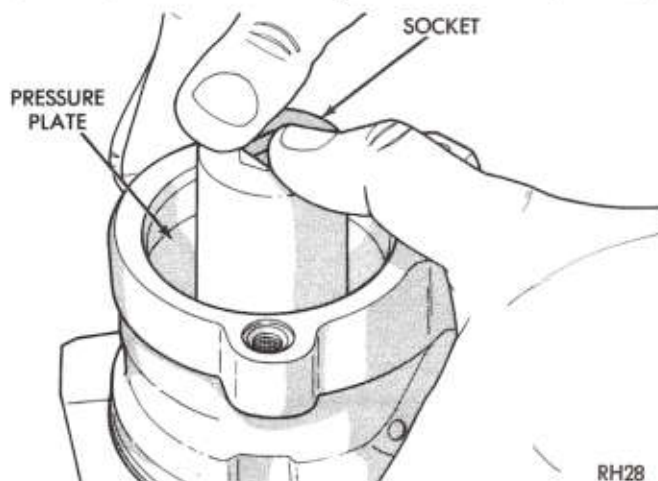

Fig. 16—Seating Pressure Plate
(10) Position pressure plate on dowel pins. Place a 1 1/4 inch socket in groove of pressure plate and seat entire assembly on O-ring in pump cavity by pressing down on pressure plate with both thumbs (Fig. 16).
(11) Place spring in groove in pressure plate and position end cover lip edge up over spring.
(12) Press end cover down below retaining ring groove with vise or arbor press and install ring